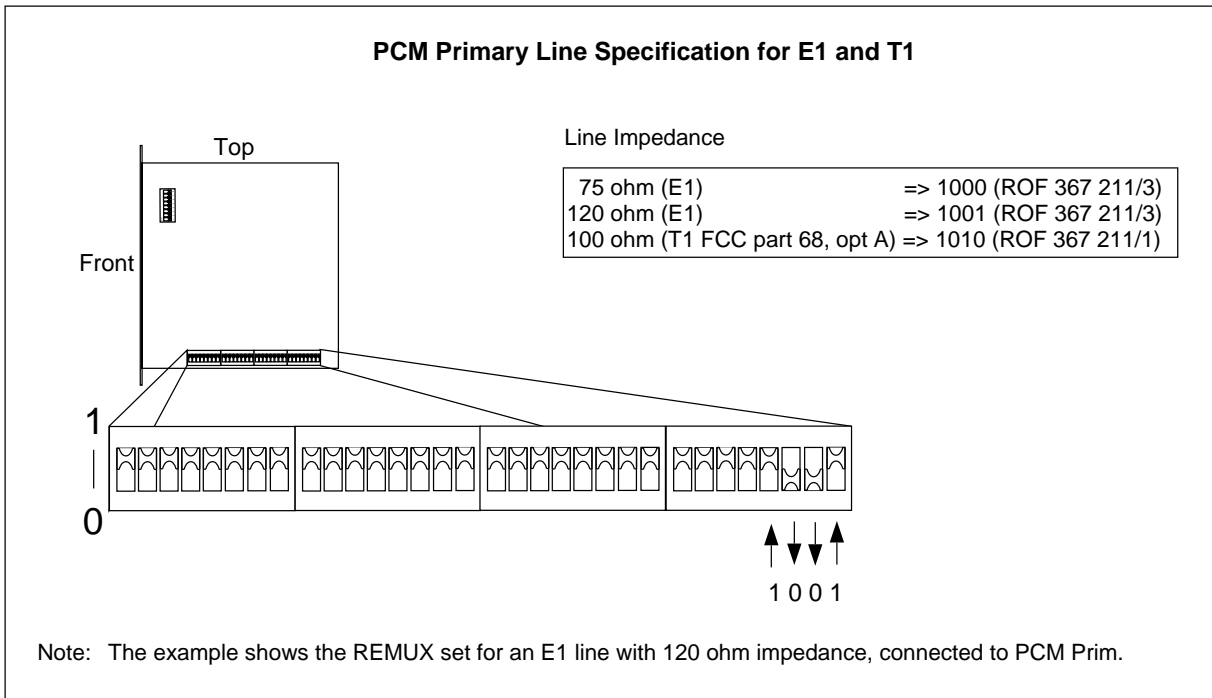

Figure 4-20. Settings for the PCM Primary Line Specification, E1 and T1
- If impedance is used (for E1 transmission, and T1 FCC (Federal Communications Commission) part 68, option A), see Figure 4-20 on page 4-38.